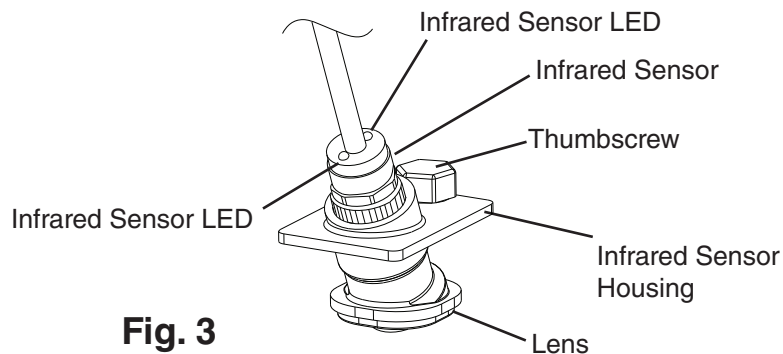

Fig. 3
- 4) Confirm that IS is connected to the K6 connector on CB. Wipe down the IS lens with a clean, warm, damp cloth. If the bottom of the icemaker is not accessible in your application, remove the thumbscrew securing the IS housing, then remove the housing from the base. See Fig. 3.
- 6) Move the power switch to the "ON" position to start the automatic icemaking process. Check that the IS green LED is on. The green LED confirms 20VDC power from CB to IS and remains on constantly. **Diagnosis:** If the green LED is not on, confirm 20VDC at K6 connector dark blue (DBU) to brown (BR). If 20VDC is present and the green LED is off, IS is bad and must be replaced. If not, see step "3) IS Power Supply," under "IV.C. Control Board Check."